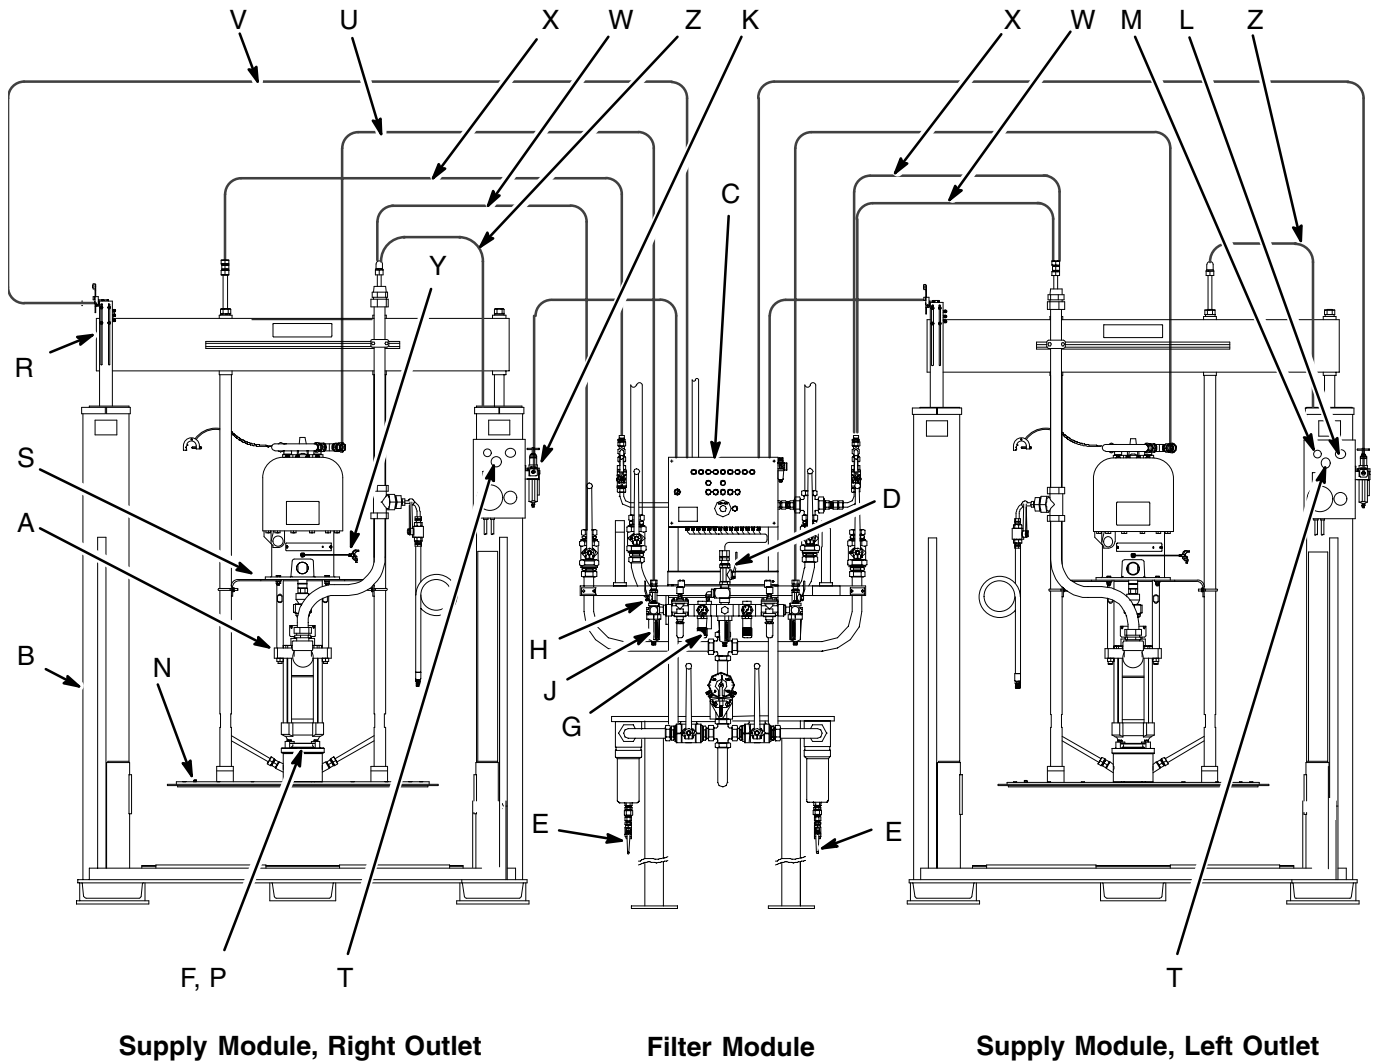

Fig. 2
- **Main air bleed valve (D)** is required in your system to shut off the air supply to the pump and ram (refer to the preceding **WARNING**). When closed, the valve bleeds off all air in the ram and pump, and the ram slowly lowers. Be sure the valve is easily accessible from the pump, and is located **upstream** from the air manifold. See Fig. 2.
- **Pump air bleed valves (H)** are required in your system to relieve air trapped between the valves and the pumps when the valves are closed (refer to the preceding **WARNING**). Be sure the valves are easily accessible from the pumps, and located **downstream** from the air manifold.
- **Pump air regulators (G)** control pump speed and outlet pressure by adjusting the air pressure to the pumps. Locate the regulators close to the pump, but **upstream** from the pump air bleed valves (H).
- **Air filters (J)** remove harmful dirt and moisture from the compressed air supply.
- **Pneumatic crossover (C)** provides switching between supply modules to provide a constant supply of material to the system. The crossover controls the air supply to each of the supply modules.
- **Ram air regulators (K)** control the air pressure to the rams.
- **Ram director valves (L)** control the raising and lowering of the ram.
- **Ram plate blowoff valves (M)** open and close the flow of air to assist raising the ram plate (N) out of an empty drum.
1. Place the gasket (P) from Mounting Kit 222776 on the ram plate. See Fig. 2. Lower the pump onto the gasket and plate. Secure the pump's intake flange to the plate with the screws and lugs (F) included in the mounting kit (used with CM2100, DF2400, and DF1800 pumps).
2. Attach the motor to the mounting brackets (S) with the screws and washers provided with your pump.
1. Set the ram pressure adjustment of the first ram to approximately 2 bar. Set the director valve (L) to DOWN. Open the air valve (H) to the air motor. Press the START PUMP button (T) to start the pump. Run the pump until material emerges from the venting valve of the riser pipe. Continue this until all air entrapment is eliminated. Then close the vent valve.
2. Move the director valve (L) to the DOWN position.
3. Set the ram pressure adjustment of the second ram to approximately 2 bar. Set the director valve (L) to DOWN. Open the air valve (H) to the air motor. Press the START PUMP button (T) to start the pump. Run the pump until material emerges from the venting valve of the riser pipe.
4. Move the director valve (L) to the DOWN position.
6. Open both pump air valves (H). See Fig. 2.
7. Open the air valve (R) on the ram changeover box. This will enable changeover and pressure control.